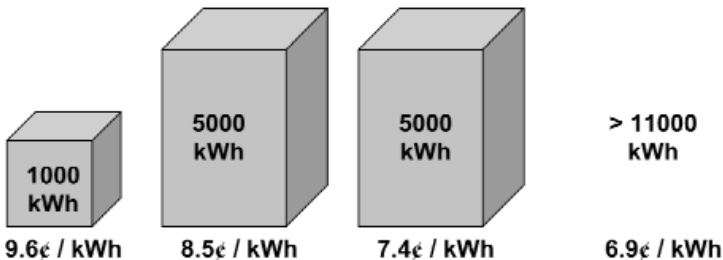

FIGURE 4.23 Example of declining block rate.
*Block rates* vary the cost of electricity depending on how much electricity is used. The first block has a given size and cost. When that block is “filled” you move on to the next block, and so on. Figure 4.23 shows an example of a declining block rate, where the more electricity you use, the lower the unit cost becomes. Many commercial electricity rates are block rates.